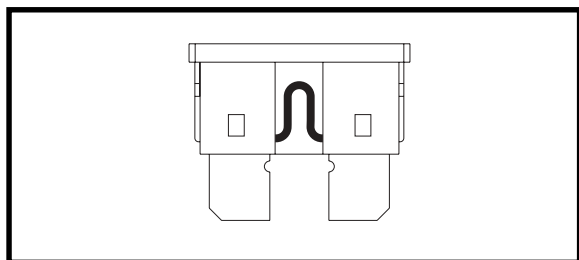

Figure 20. Working Fuse
2. Examine the fuse to be sure it is blown. See figures 20 and 20A.